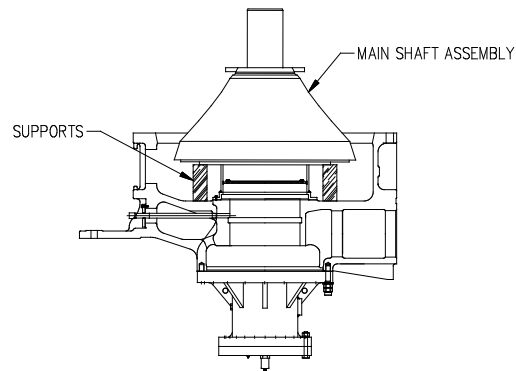

Fig 6.6.1
- Insert wooden blocks between the bottom frame arms and the crushing head making sure that it is in a stable condition. (Fig. 6.6.1).